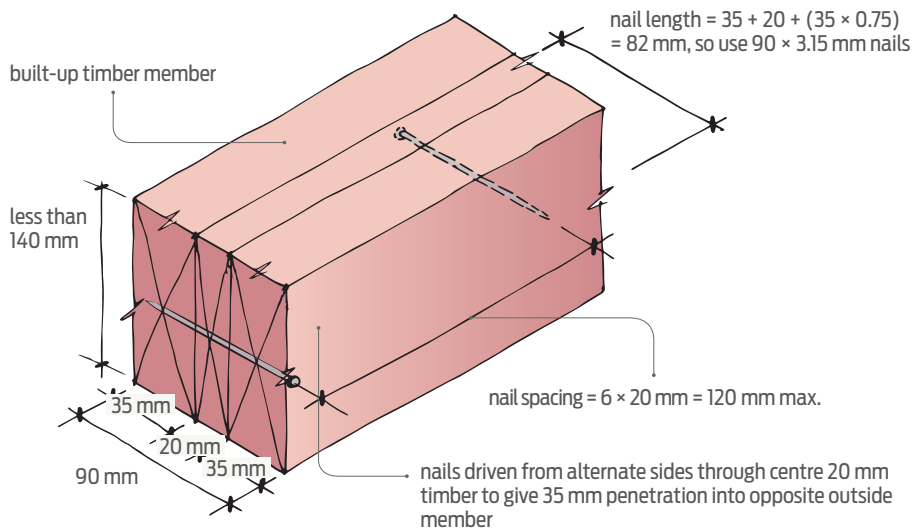

Figure 2. Built-up horizontal member under 140 mm deep (lintel or beam).
- the spacing of the nails must not exceed six times the thickness of the thinnest member [Figure 2]